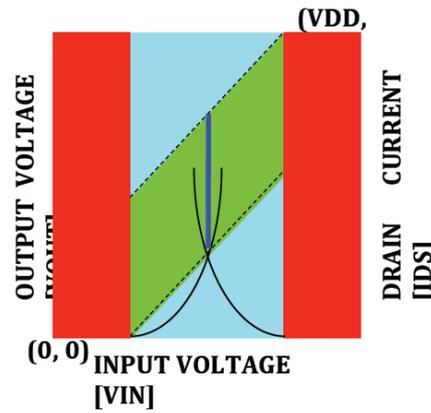

Figure 12.11: Solution to problem 5.3 a)
- a) In the red regions the current is zero (at least on the scale we draw it here). In the blue regions, the current equal to the saturation current for the transistor that is in the saturation region (that is the one with the lowest effective gate voltage, VGT. In the green region the current is equal to the saturation current when the two transistors have the same effective gate voltage. See Figure 12.11.